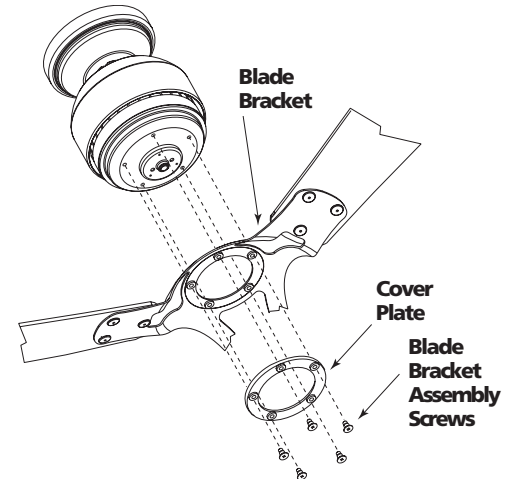

Figure 7c - Attaching Blade Iron Assembly to Motor
3. Align the holes in the blade bracket and the cover plate with the five holes in the bottom of the motor and partially install the five 1/4"-20 Screws. Refer to Figure 7c.